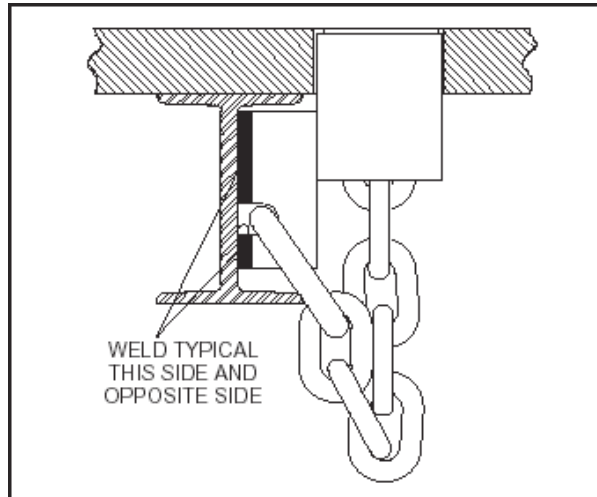

Figure 4 - Front View
- 5 Weld the bar of the Floor Chain Tie-down to the cross-member. Weld along both sides of bar (see Figure 4). Do not weld chain link, it must be free to move.